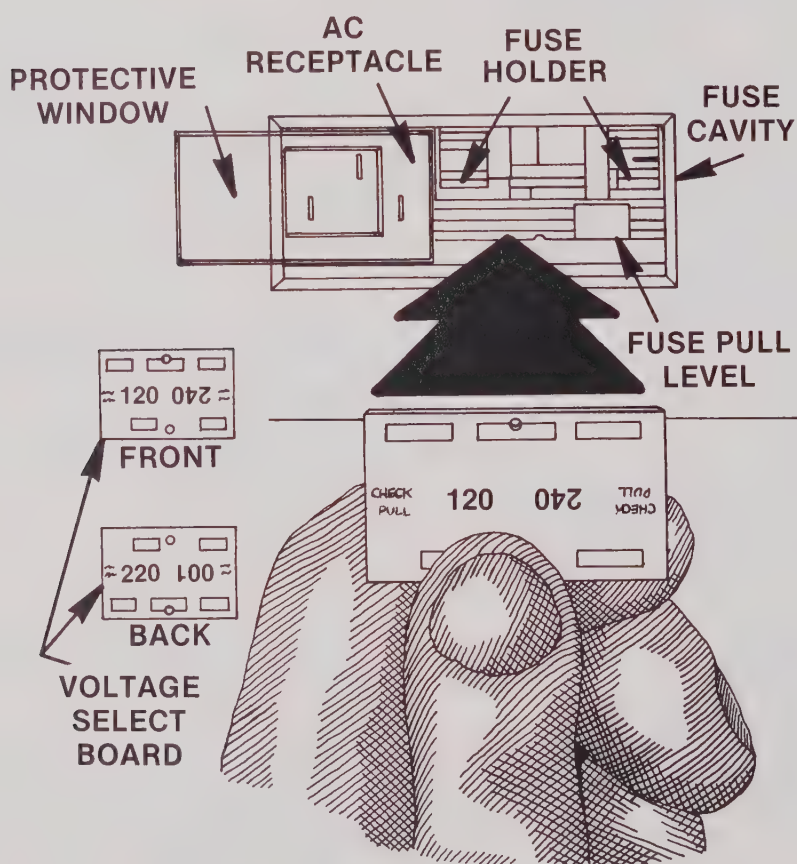

FIGURE 4-1
2. Disconnect the ends of the power cord from the AC power outlet and the AC receptacle on the bottom of the plotter (see Figure 4-1).
6. As shown in Figure 4-1, one side of the voltage select board has the numbers "120" and "240" printed on it, while the other side has "220" and "100." These numbers indicate operating voltages of 100, 120, 220, and 240 VAC.
While holding the board in this orientation, slide it into place inside the fuse cavity (see Figure 4-1). The number indicating the selected operating voltage will now be visible through the fuse cavity window.